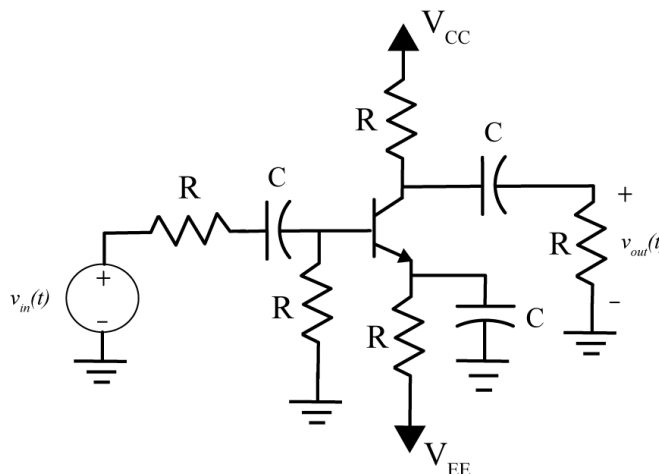

Figure 1: Simple common emitter amplifier.
For many engineering systems, the system can be modeled as linear only over a specified region of operation. For example, the operational amplifier only operates when its linear region when the output is between the positive and negative supplies otherwise it is in saturation. In this lab you will construct the simple common emitter BJT amplifier shown in Figure 1. Then you will determine the range of input signals for which the circuit can be modeled as linear. Note that this is not a well-designed amplifier circuit, but it is easy enough for us to build and examine to learn about system linearity.
3. Use the components to create the common emitter amplifier circuit shown in Figure 1.